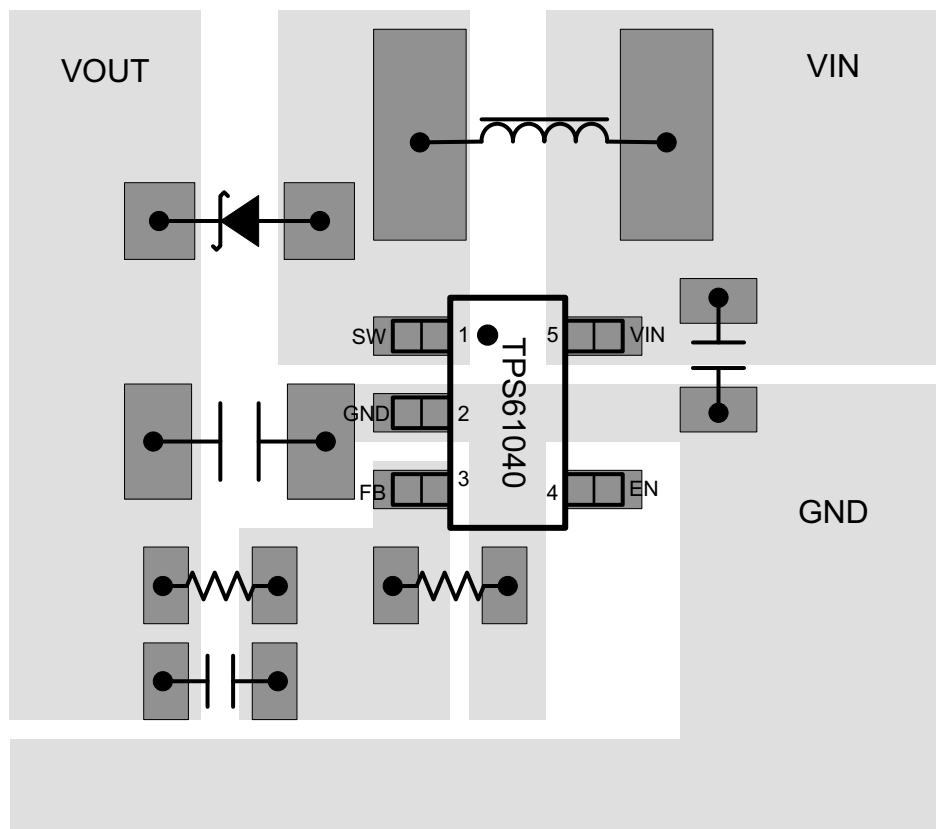

Figure 10-1. Layout Diagram
**Table 8-2. Recommended Inductor for Typical LCD Bias Supply (see Figure 10-1)**
**Table 8-4. Recommended Schottky Diode for Typical LCD Bias Supply (see Figure 10-1)**
Wide traces should be used for connections in bold as shown in Figure 10-1. A star ground connection or ground plane minimizes ground shifts and noise.